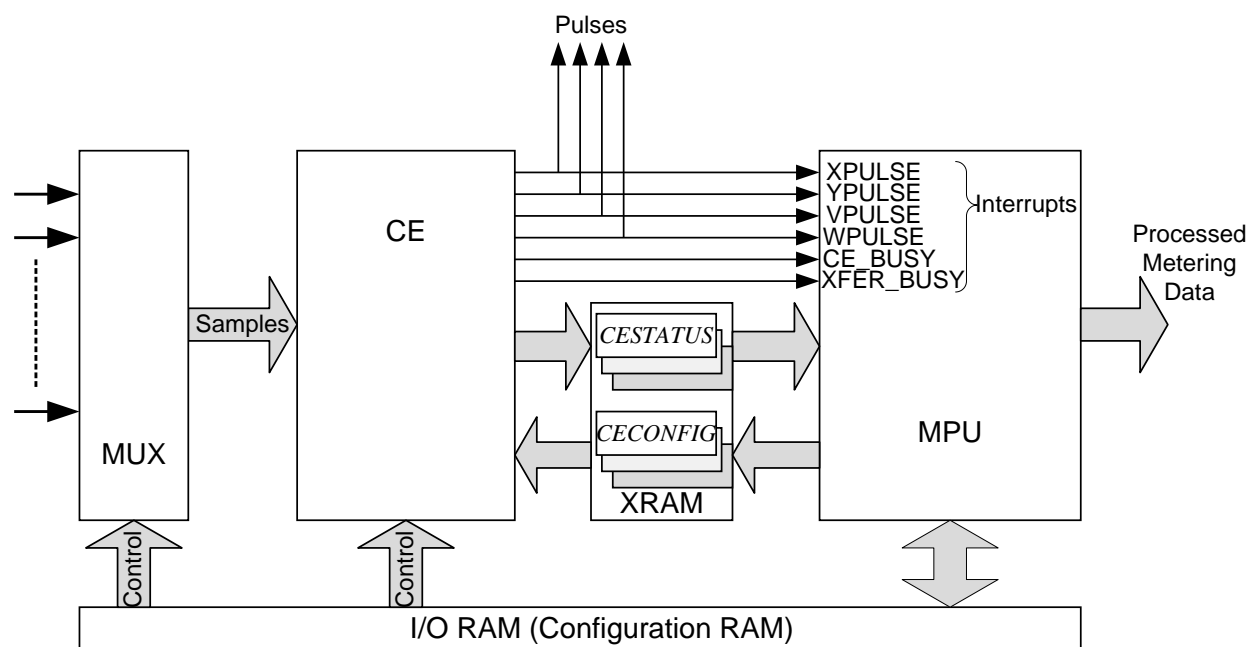

Figure 30: MPU/CE Data Flow
The data flow between the Compute Engine (CE) and the MPU is shown in Figure 30. In a typical application, the 32-bit CE sequentially processes the samples from the voltage inputs on pins IA, VA, IB, etc., performing calculations to measure active power (Wh), reactive power (VARh), A^2h , and V^2h for four-quadrant metering. These measurements are then accessed by the MPU, processed further and output using the peripheral devices available to the MPU.